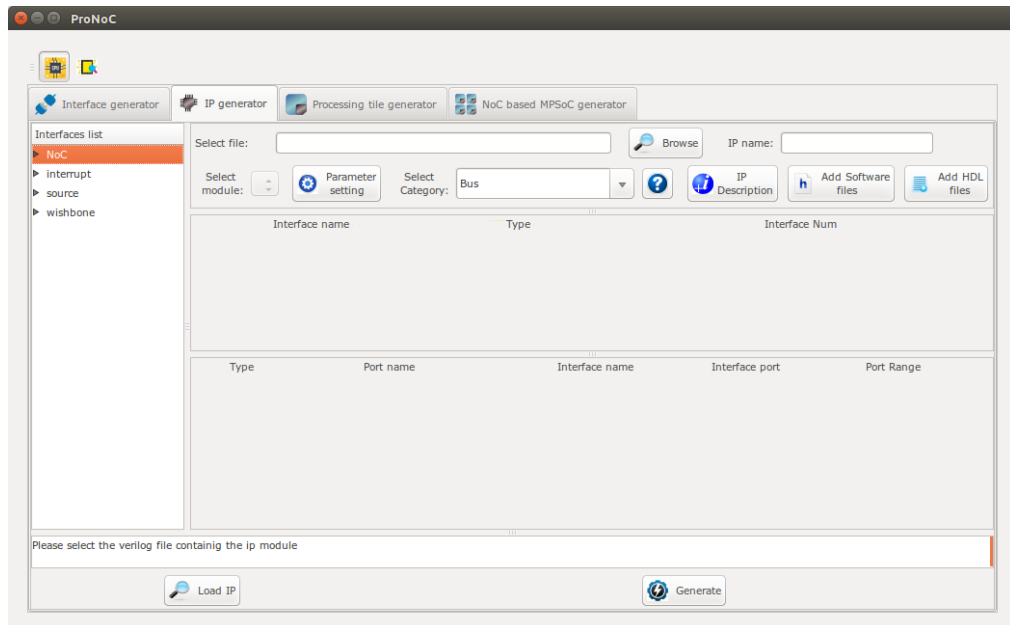

Figure 6.3: ProNoC New IP Generator snapshot.
2. Then select the  IP generator . The IP Generator snapshot is shown in Figure 6.3.